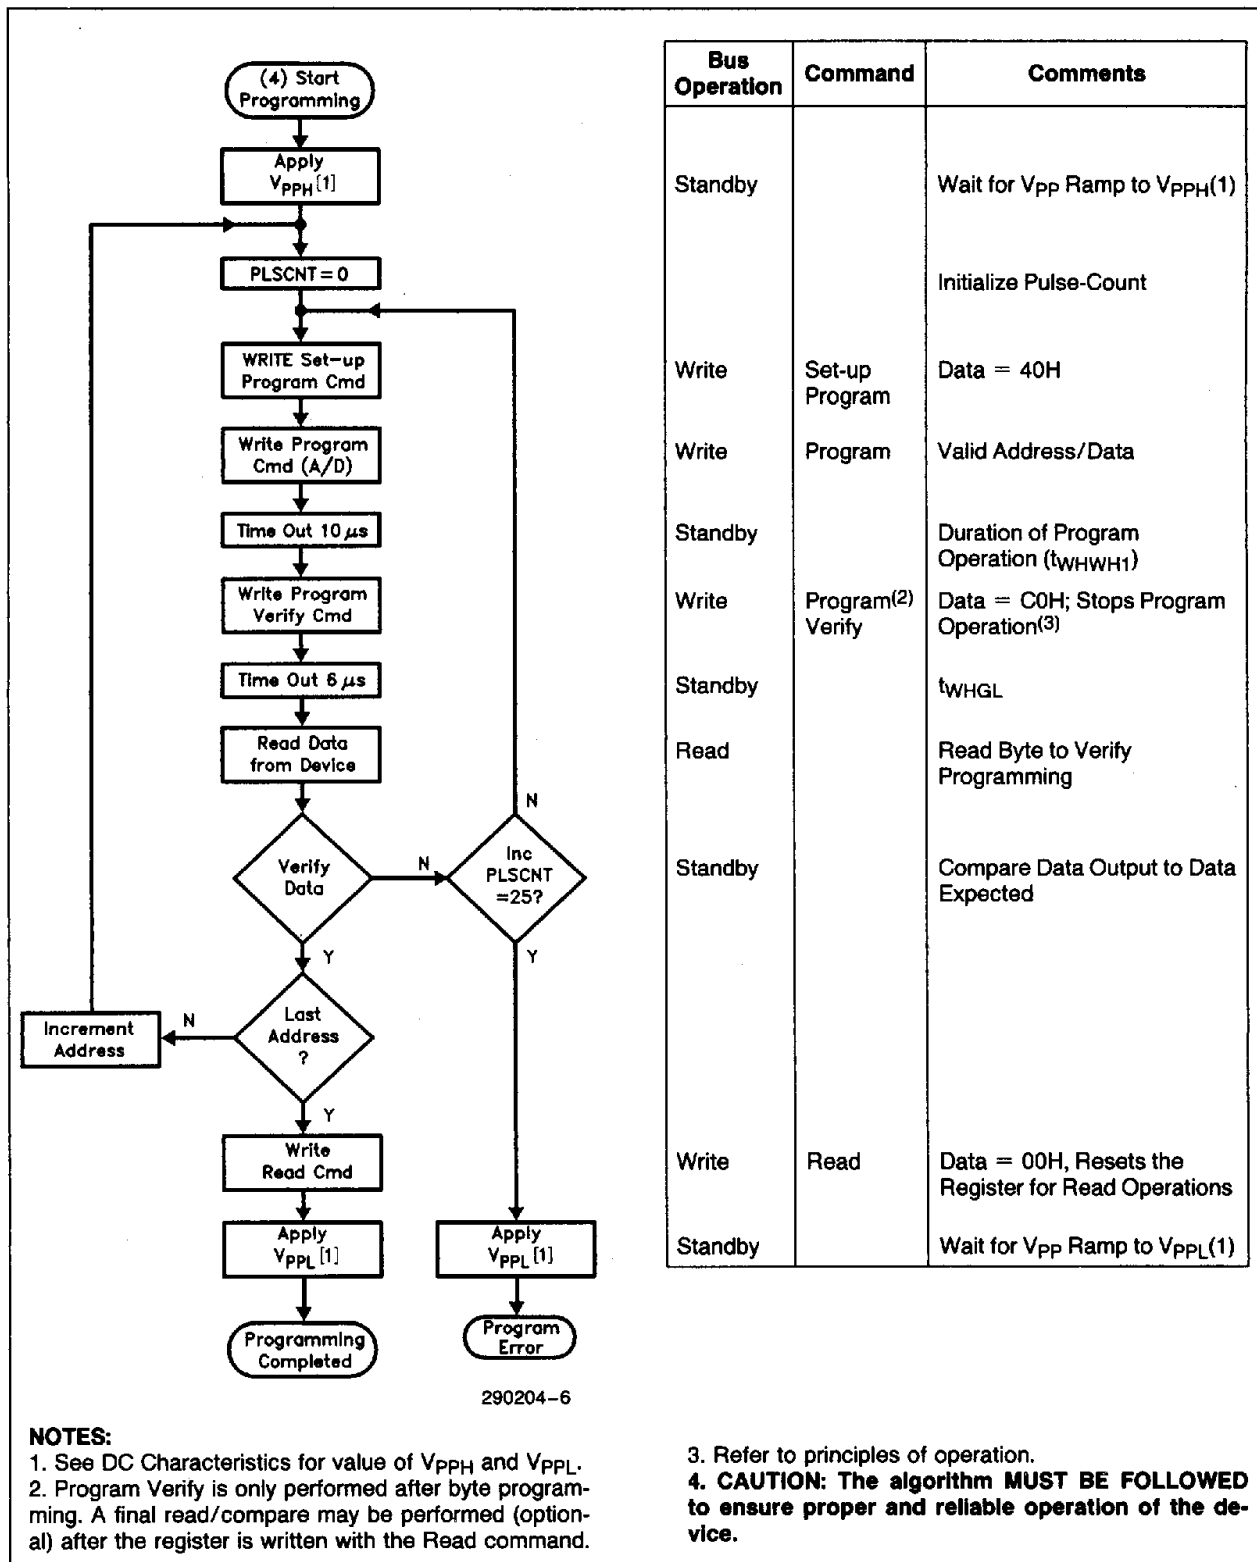

Figure 4. 28F512 Quick-Pulse Programming Algorithm
- Figure 4 illustrates the Quick-Pulse Programming algorithm.
The 28F512 applies an internally-generated margin voltage to the byte. A microprocessor read cycle outputs the data. A successful comparison between the programmed byte and true data means that the byte is successfully programmed. Programming then proceeds to the next desired byte location. Figure 4, the 28F512 Quick-Pulse Programming algorithm, illustrates how commands are combined with bus operations to perform byte programming. Refer to AC Programming Characteristics and Waveforms for specific timing parameters.
The Quick-Pulse Programming algorithm uses programming operations of 10 μ s duration. Each operation is followed by a byte verification to determine when the addressed byte has been successfully programmed. The algorithm allows for up to 25 programming operations per byte, although most bytes verify on the first or second operation. The entire sequence of programming and byte verification is performed with V_{pp} at high voltage. Figure 4 illustrates the Quick-Pulse Programming algorithm.